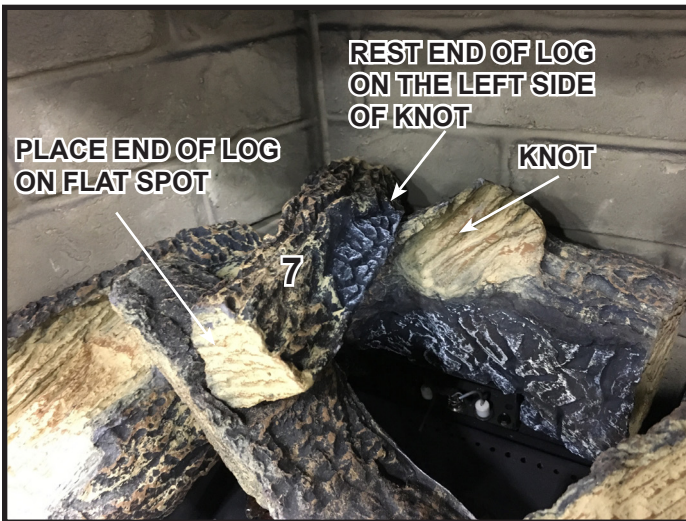

Figure 13. Place Log #7
**Log #7 (SRV2221-707):** Position Log #7 as shown in Figure 13. See Figure 2 and 11 for additional reference points. Place the front end of Log #7 on the flat spot indicated in Figure 11. Place the back end of Log #7 on the left side of the knot. See Figure 13.